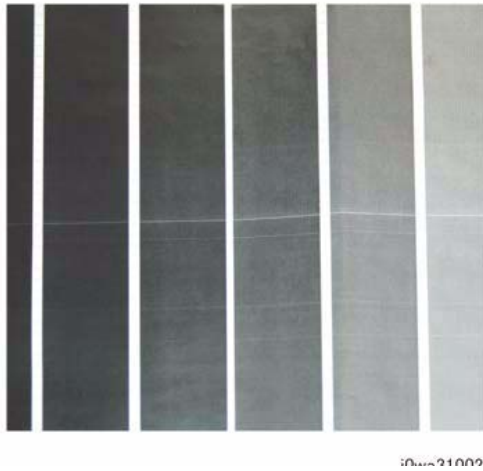

Figure 1 White Lines Defect Sample
1. Check customer print to verify white lines appear in the process direction for all densities as in Figure 1.